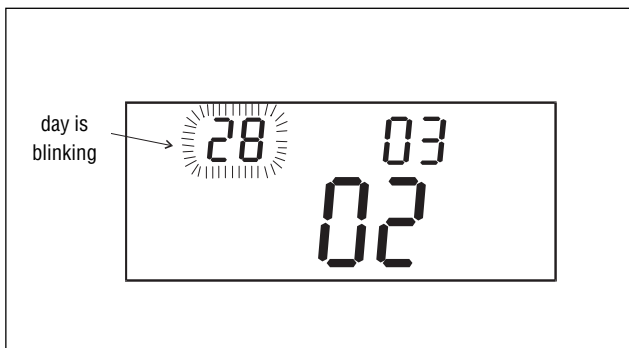

Fig.9.2
- Proposed **Customer or UUT Numbers** after having pressed the key „MEM“ or „SAVE“ (see Fig. 9.2) correspond to the values having been last used within function **SAVE**, and are independent from the other functions. (**RECALL**, **RS232**, **CLEAR**).